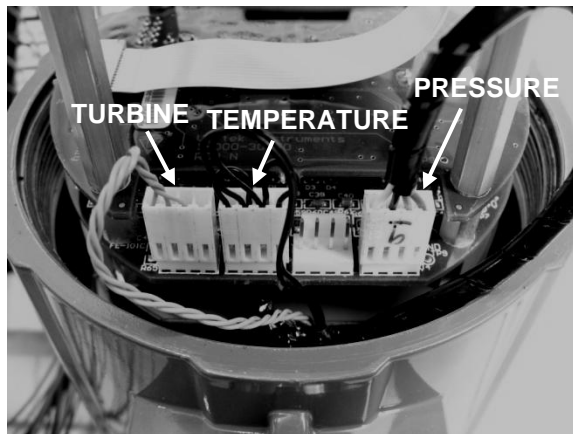

Figure 5-1. Electronics Stack Sensor Connections
3. Using ESD precautions and hazardous area precautions, remove the electronics enclosure window cover. Disconnect the turbine sensor from the electronics stack or remote feed through board. Refer to Figure 5-1 or 5-2. Measure the resistance between the outside pins – the resistance should be around 100 ohms. Measure the resistance from the center pin to the meter ground – the resistance should be less than 1 ohm.
3. Using ESD precautions and hazardous area precautions, remove the electronics enclosure window cover. Disconnect the temperature sensor from the electronics stack or the remote feed through board. Refer to Figure 5-1 or 5-2. Measure the resistance across the outside pins of the temperature sensor connector. It should read approximately 1080 ohms at room temperature (higher resistance at higher temperatures).
3. Locate the sensor harnesses which come up from the neck of the flow meter and attaches to the circuit boards. Make note of the location of each sensor connection. Refer to figures 5-1 and 5-2. The turbine sensor connection is on the left, the temperature sensor connection (if present) is second from the left, and the pressure sensor connection (if present) is the right most connector. Use small pliers to pull the sensor wiring connectors off of the circuit boards.